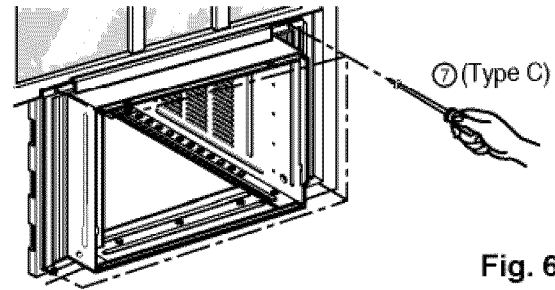

Fig. 6
6. Attach each Frame curtain the window sash by using screws (Type C.) (See Fig. 6)